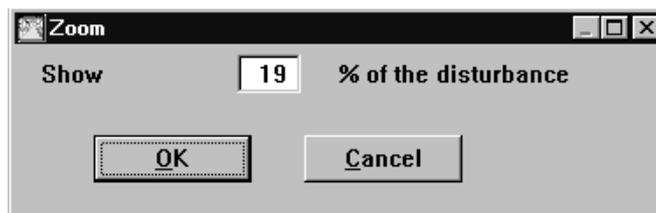

Fig. 35 The zoom dialogue box.
- 1 Select **Zoom** to show a dialogue box, see Fig. 35, in which the part of the total disturbance to be displayed on the visible screen area can be entered. The zoom factor is entered in percentage of the total disturbance.